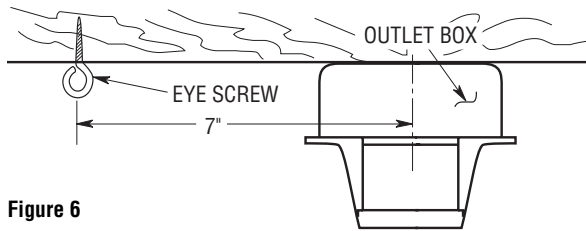

Figure 6
- 9. Screw the eye screw (supplied) into the joist 7 inches from the center of the ceiling outlet box (Figure 6).